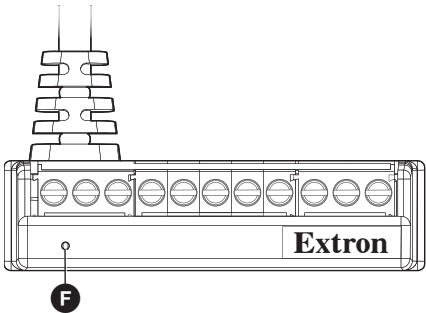

Figure 3. TLCA 1 Adapter — Front View
- F Power LED indicator** (see figure 3 on page 1) — provides the power status of the adapter